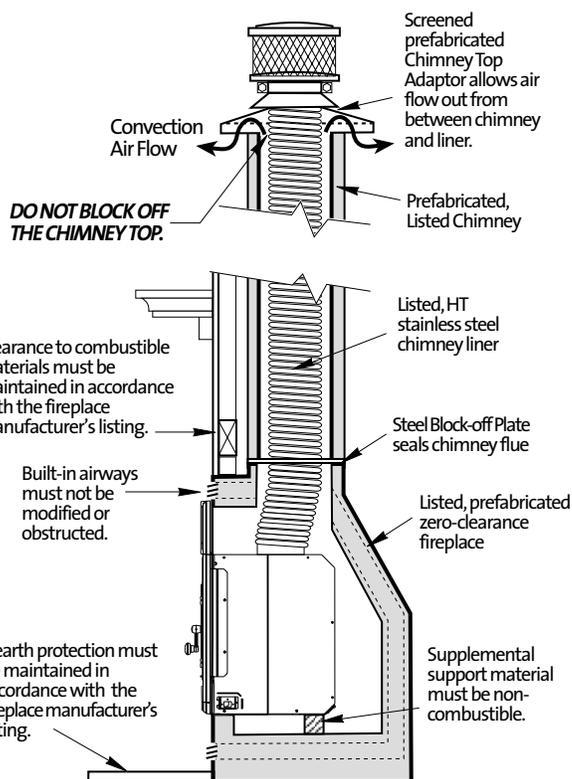

Figure 3. Prefabricated fireplace installation requirements.
- **THE TOP PLATE OF THE LINER SYSTEM MUST NOT BLOCK AIRFLOW BETWEEN THE COOLING WALLS OF THE FACTORY-BUILT AIR-COOLED CHIMNEY SYSTEM.** These airways **MUST** be left open under all conditions to maintain proper air-cooling of the chimney system. See fig. 3.